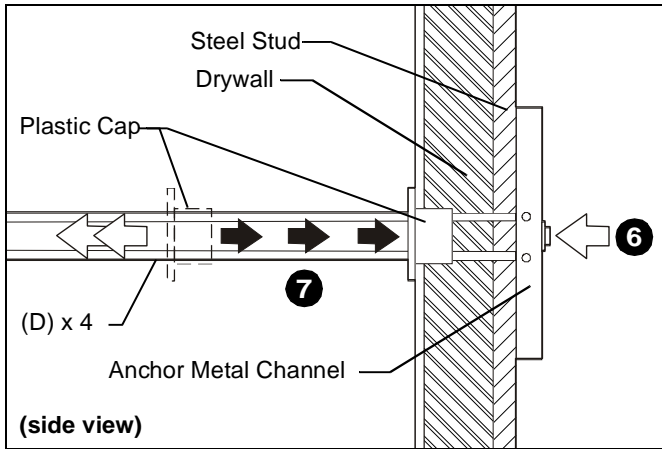

Figure 5
6. Holding plastic straps on anchor (D), pull anchor away from wall until channel rests flush behind wall making sure anchor channel is positioned vertically on stud. (See Figure 5)
7. Slide plastic cap on anchor (D) towards wall until flange of cap is flush with wall. (See Figure 5)